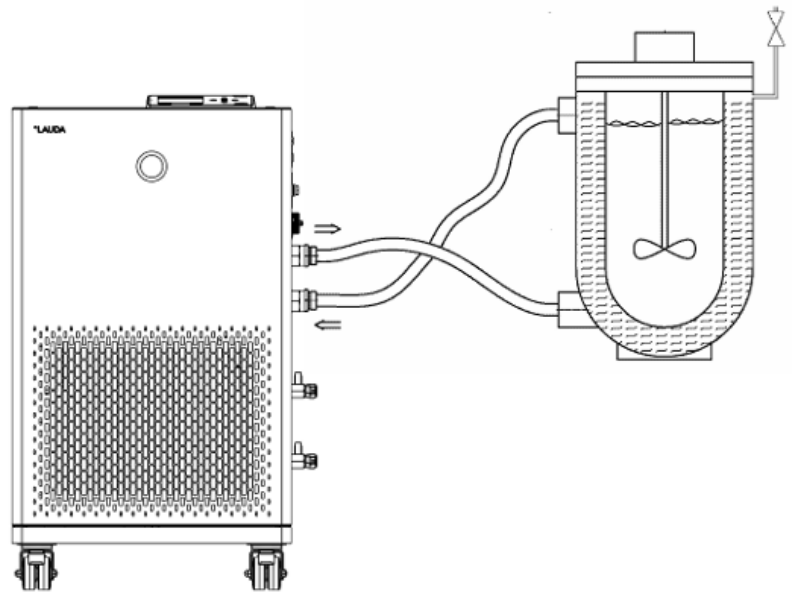

Fig. 12: Connection diagram with vent valve
- Depending on the type of application, a vent valve can significantly simplify the aeration process. The vent valve must be located at the highest point of the circuit (Fig. 12).
The external application must be connected according to the sketch (Fig. 12) so that gas/vapor bubbles can be removed from the system and undisturbed operation is possible. The outflow of the pump must be connected to the lower connection of the application. The return line to the pump connector must be connected to the top connection of the application. The application is thus flowed through from bottom to top.